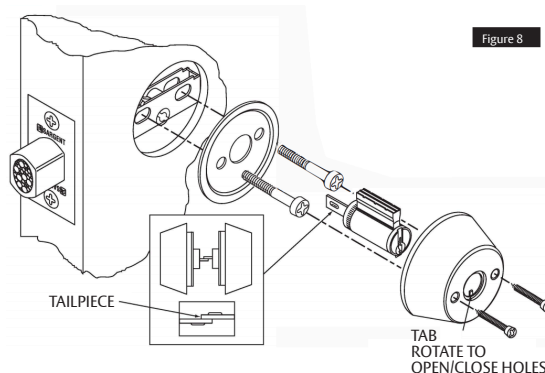

Figure 8
a. Prepare Door And Install Outside Assembly Same As Steps 1a., 1b., 1c., and 1d.**b. Install Inside Components (Figure 8)**